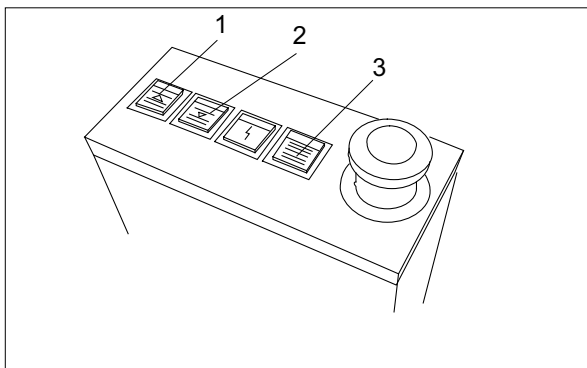

Fig. 16 Operator panel of flat pile feeder
3. Lower the pile table to a position that is favorable for you by pressing the appropriate push-button (Fig. 16/1 or 16/2).
5. Lower the pile table by pressing the push-button (Fig. 16/3) to maintain the favorable stacking height.